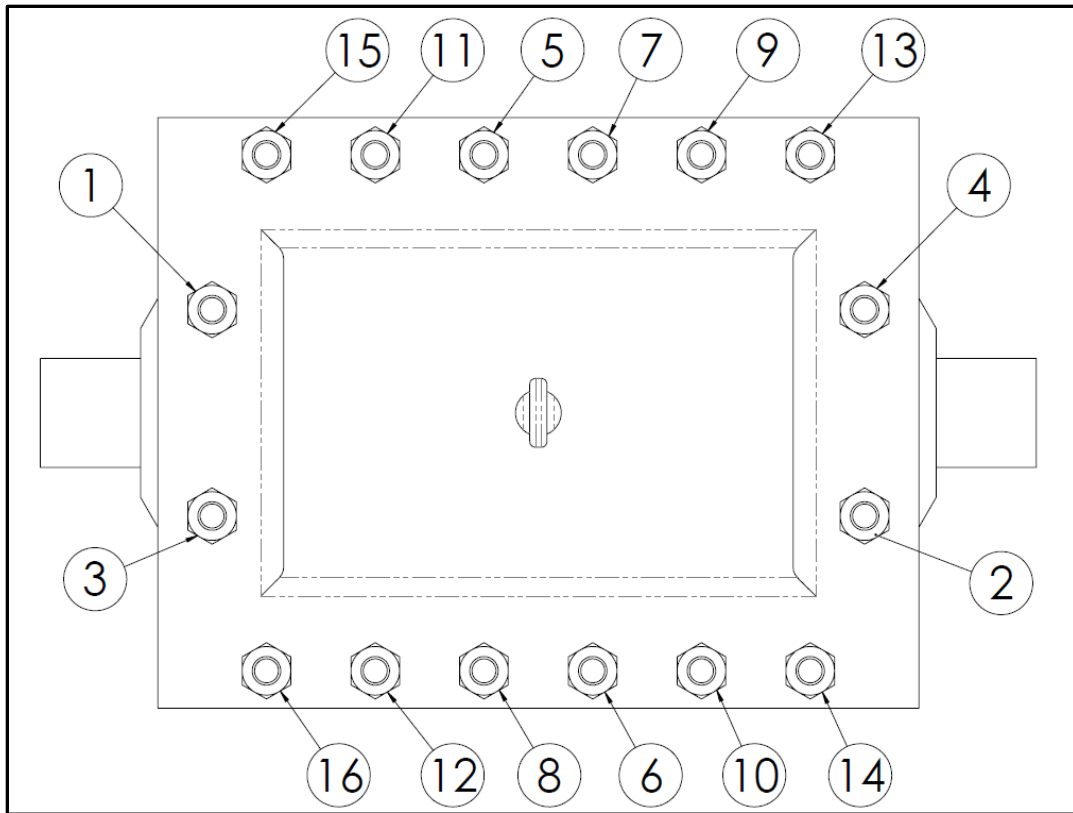

Figure 5
5. Torque the studs uniformly as indicated by the corresponding value per bolt size from the **PLIDCO Torque Chart** located on page 12 of these instructions. The best results are obtained by maintaining an equal gap all around the side bars while tightening the studs. Ensure there is full nut engagement by having a minimum of 1/4 inch (6.4 mm) of stud extending beyond the nut. The sequence for torquing the studs should follow the pattern shown Figure 5, and should be executed repeatedly as follows: